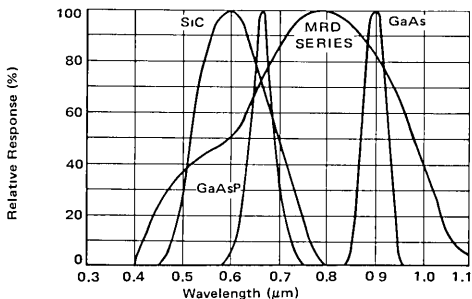

FIGURE 24 – Spectral Characteristics for Several LED's Compared with MRD Series
shown in Figure 24, but as the figure shows, the GaAs diode and the MRD phototransistor series are particularly compatible. Application of Equation (26) to the GaAs response and the MRD series response indicates that the efficiency ratio, H_E/H , is approximately 0.9 or 90%. That is, an irradiance of 4.0 mW/cm² from an LED will appear to the phototransistor as 3.6 mW/cm². This means that a typical GaAs LED is about 3.5 times as effective as a tungsten lamp at 2870°K. Therefore, the typical sensitivity for the MRD450 when used with a GaAs LED is approximately